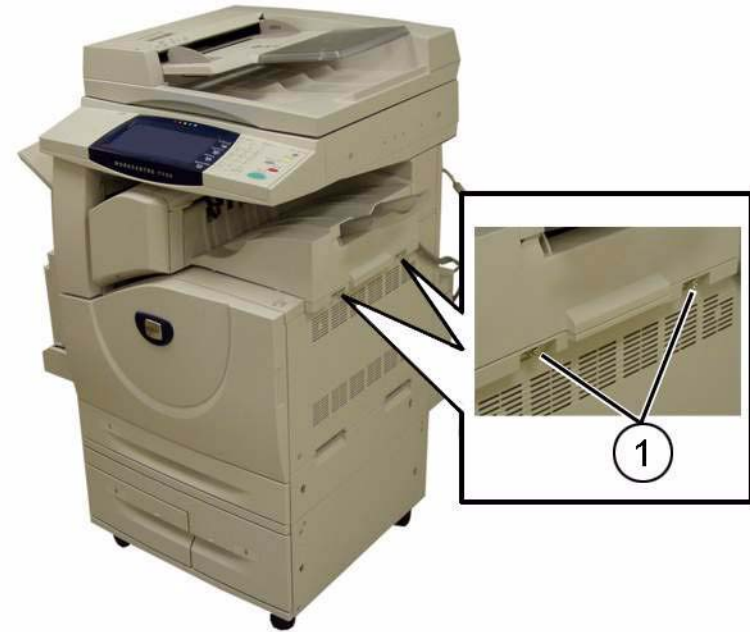

Figure 2 Loosen the Thumb Screws
5. Loosen the Thumb Screws (2) (Figure 2):